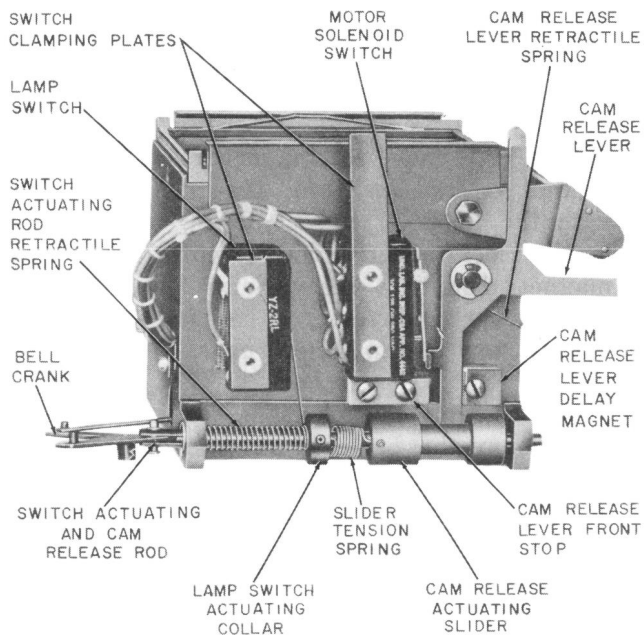

Fig. 14 — Lamp and Motor — Solenoid Switches (Image Chamber Removed from Camera)
3.34 General: To replace any of these parts, remove the image chamber as covered in 3.07. Then remove the switch actuating and cam release rod (Fig. 14) from the image chamber as follows: Move the lamp switch actuating collar away from the retaining ring which locates it on the rod just far enough to grasp the ring with the P-long-nose pliers. Grasp the ring at the center projection and pull the ring from the rod. Remove the rod and the parts which were mounted on it. After replacing parts as covered
Fig. 14 — Substitute the new spring and remount the actuating rod on the image chamber with the associated parts in place on the rod as shown in Fig. 14. Remount the retaining ring on the rod.